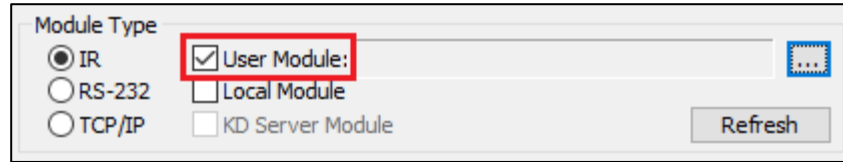

Figure 9 - Select User Module
1. In Navigator, under the “Program” tab, please click the “Add Modules” button. Once the menu shows up, select “User Module” and File Explorer will open asking to navigate to the directory of a module (Figure 9).